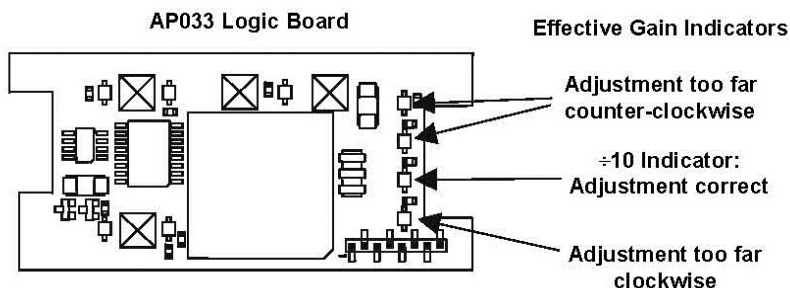

Figure 12, ± 10 Effective Gain Indicator
7. In Cal Mode, the **EFFECTIVE GAIN** indicators serve as an adjustment indicator. The **EFFECTIVE GAIN** indicators are located on the Logic Board (See Figure 12.) It may be necessary to hold the boards in your hands to see the indicators while making the adjustment.
5. Adjust **Attenuator CMRR (C18A)** for minimum amplitude shift of the displayed waveform at the trigger point in time. See Figure 12 for adjustment location.